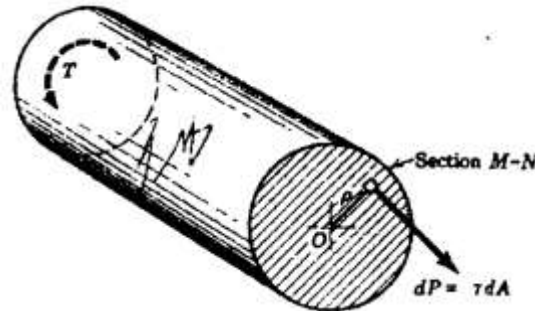

Fig.2
3. The projection upon a transverse section of straight radial line in the section remains straight. As show fig.2
Now , a differential area of section M-N at a radial distance ρ from the axis of the shaft carries the differential load , as show fig.2